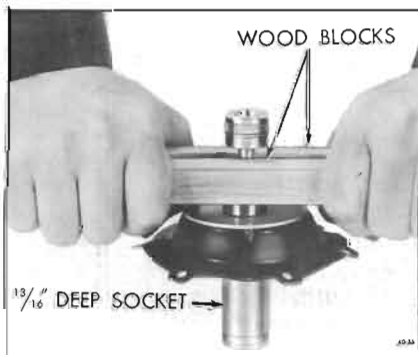

Figure 40-35—Installing Diaphragm Retainer
1. Install new corprene washer, old plate (unless damaged), new diaphragm (with outer lip toward second stage end of piston) and second plate. See Figure 40-35.